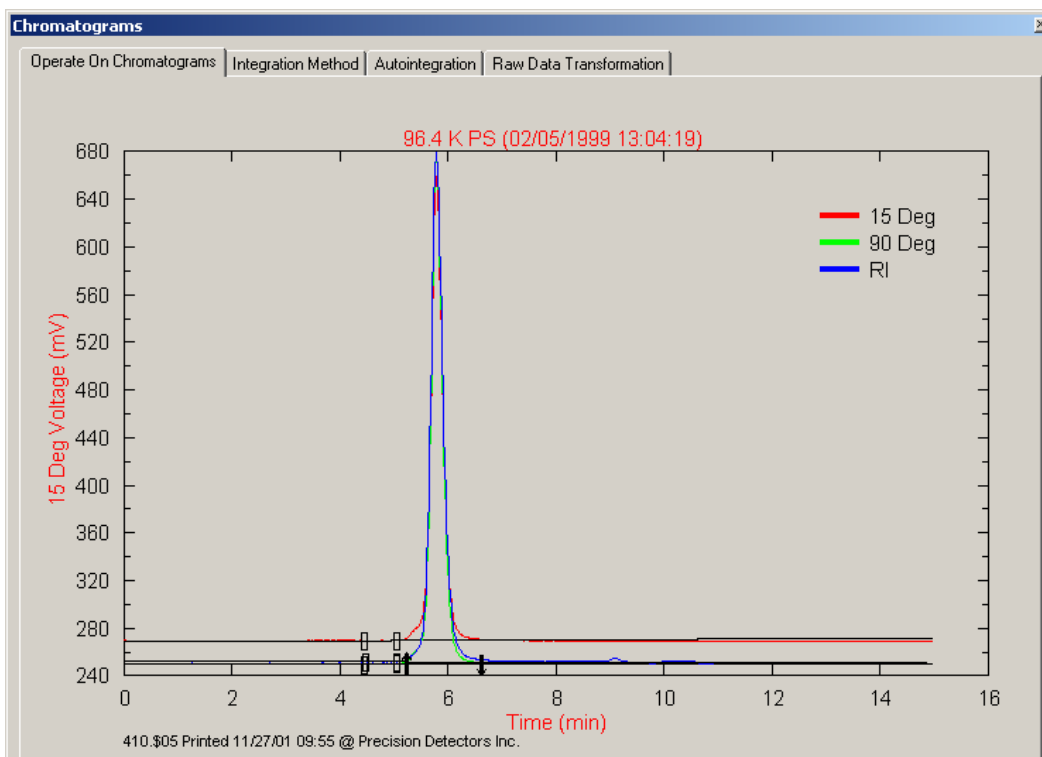

Figure 7-8: The Chromatograms Dialog Box - Operate on Chromatograms Tab
The baseline is used to indicate the “zero signal” level for the sample so that the area of the peak can be properly determined. The baseline is normally selected by defining two points in the chromatogram that are on a flat part of the trace (one before and one after the peak(s) of interest). The baseline is indicated on the chromatogram as a black line (e.g. see the line at approximately 275 mV for the 15° trace in Figure 7-8).
- a) Open the *Operate on Chromatograms* tab of the *Chromatograms* dialog box (Figure 7-8).